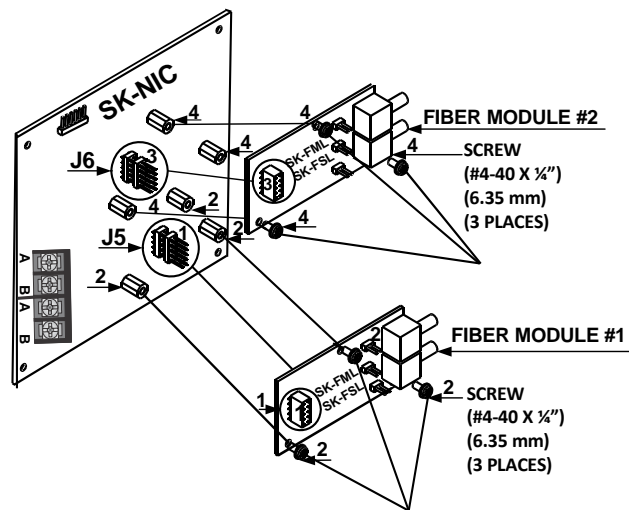
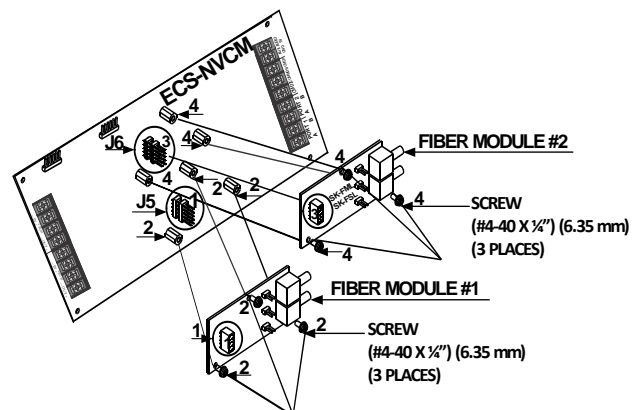

Figure 3.2.1 SK-FML Installation
Figure 3.2.2 SK-FSL Installation
4. Plug the Fiber Module #1 into P6 of the ECS-NVCM or SK-NIC circuit as shown in Location 1 in Figure 3.2.1 and Figure 3.2.2.
5. To connect the Fiber Module # 1 to the ECS-NVCM or SK-NIC, insert and secure three screws (#4-40 x 1/4") as shown in Location 2 in Figure 3.2.1 and Figure 3.2.2.
6. Plug the Fiber Module #1 into P5 of the ECS-NVCM or SK-NIC circuit as shown in Location 3 in Figure 3.2.1 and Figure 3.2.2.
7. To connect the Fiber Module #1 to the ECS-NVCM or SK-NIC, insert and secure three screws (#4-40 x 1/4") as shown in Location 4 in Figure 3.2.1 and Figure 3.2.2.
Figure 3.2.1 illustrates the SK-FML/SK-FSL installed to the SK-NIC.
Figure 3.2.2 illustrates the SK-FML/SK-FSL installed to the ECS-NVCM.